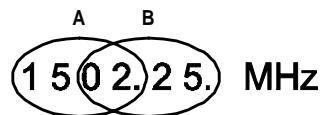

Figure8. L-Band frequency low and high-resolution display
L-Band frequency: (see Figure 8) For example; if a current L-Band frequency is 1502.25 MHz, changing to Alt-1 Mode (ALT LED flashes) and pressing 4 (to display Lb1 or Lb2), and then pressing 7 displays the four most significant digits on the front panel (i.e., 1502.). At low resolution (A), pressing the up \uparrow or down \downarrow arrow button advances the frequency up or down in 1 MHz steps (i.e., 1503., 1504., and so on). Pressing and holding down the up \uparrow or down \downarrow arrow button will increase the step size further.